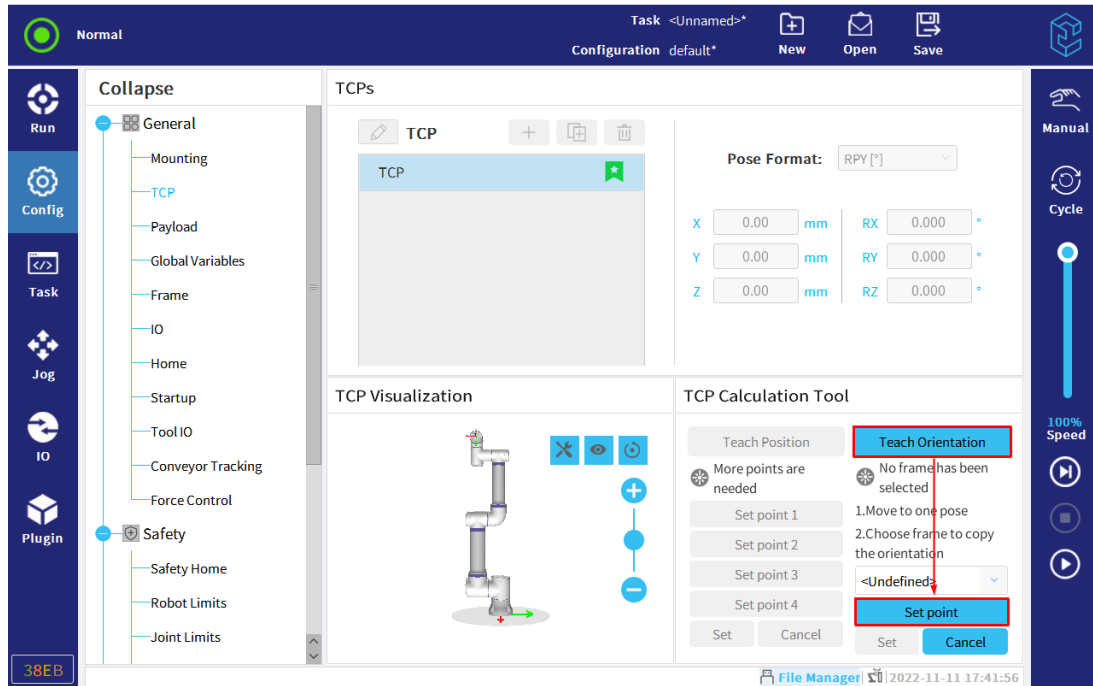

Figure 3-39 : Teach Pose
1. Click "Teach Pose", as shown in **Figure 3-39** .